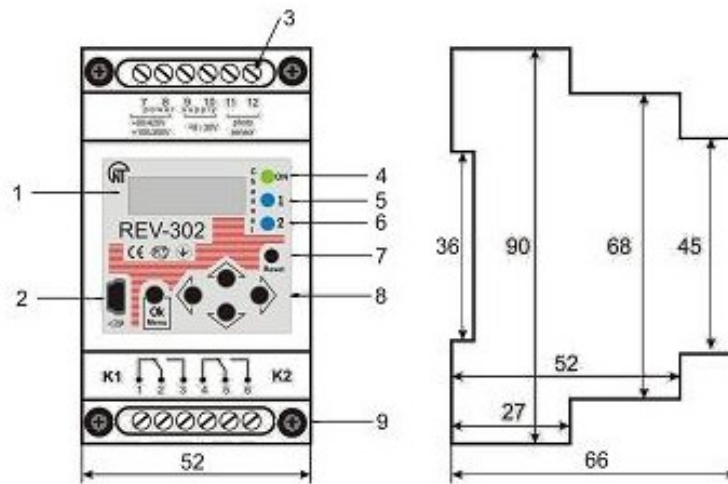

Figure 1.1 - Front panel view and dimensions
1.2.2 Front panel view and dimensions are shown on fig.1.1.
- make sure that REV-302 is disconnected from the AC power supply and the DC power supply (terminals 7-10, fig. 1.1);